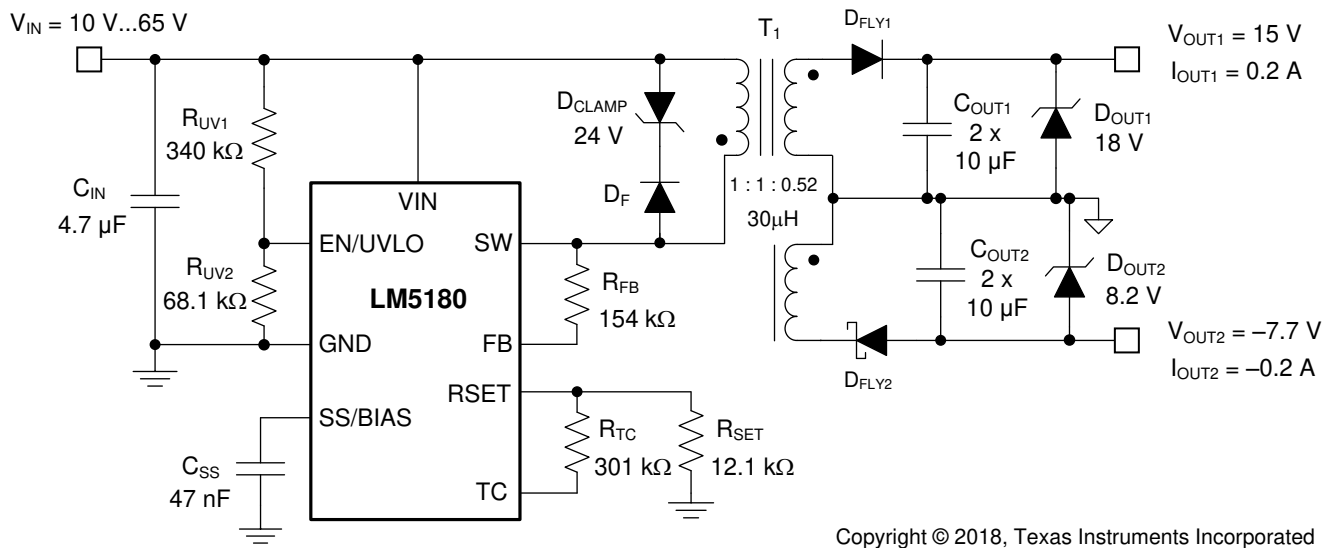

Figure 1. LM5180 PSR Flyback Dual-Output Schematic
Figure 1 shows the schematic of an LM5180-based flyback converter (EMI filter stage not shown). Soft start (SS), temperature compensation (TC), and UVLO (EN/UVLO) components are shown that are configurable as required by the specific application. The transformer turns ratio is 1 : 1 : 0.52 and the primary-referred magnetizing inductance is 30 μ H.